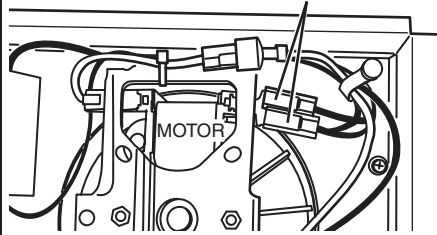

FIG. 11 - 120VAC TO 240VAC CONVERSION
- 120 VAC to 240 VAC Conversion (FIGS. 11 & 12)**
- Conversión de 120 VCA a 240 VCA. (FIGS. 11 & 12)**